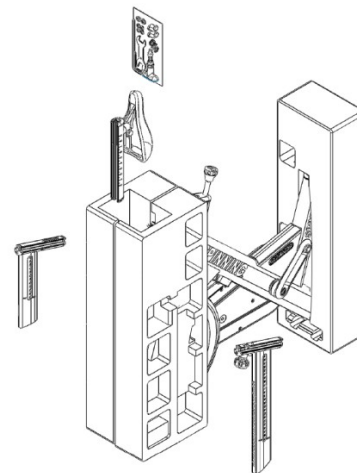

Fig. 5
5. Remove the: hardware pack, seat, handle bar post, and seat post from the foam covering the front section of the Spinner frame (Fig. 5).